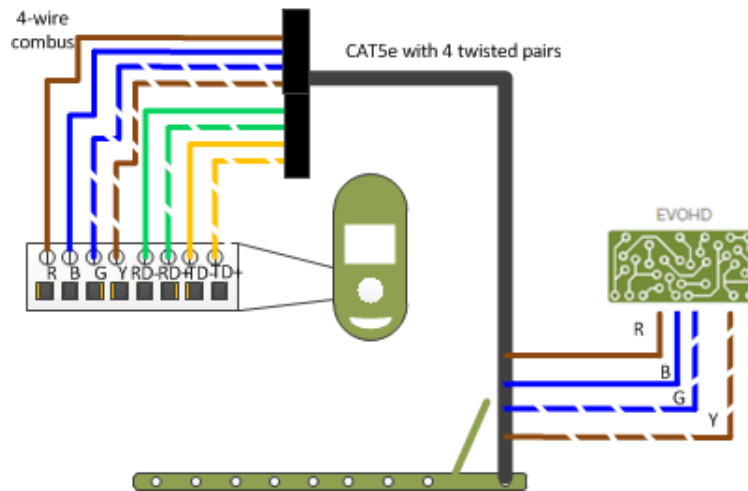
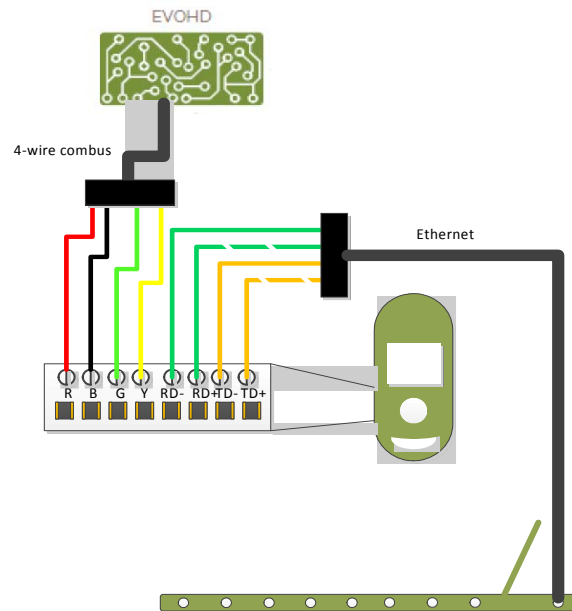

Figure 7 – Recommended wiring for using the CAT5 (or higher) cable option.
Figure 8 – HD77 2 Cables Wiring
- Step 6. Connect the wires to the terminal board as seen in *Figure 8 on page 11* and *Figure 7 on page 11*.